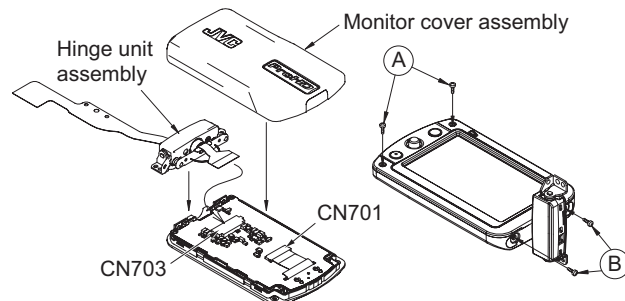
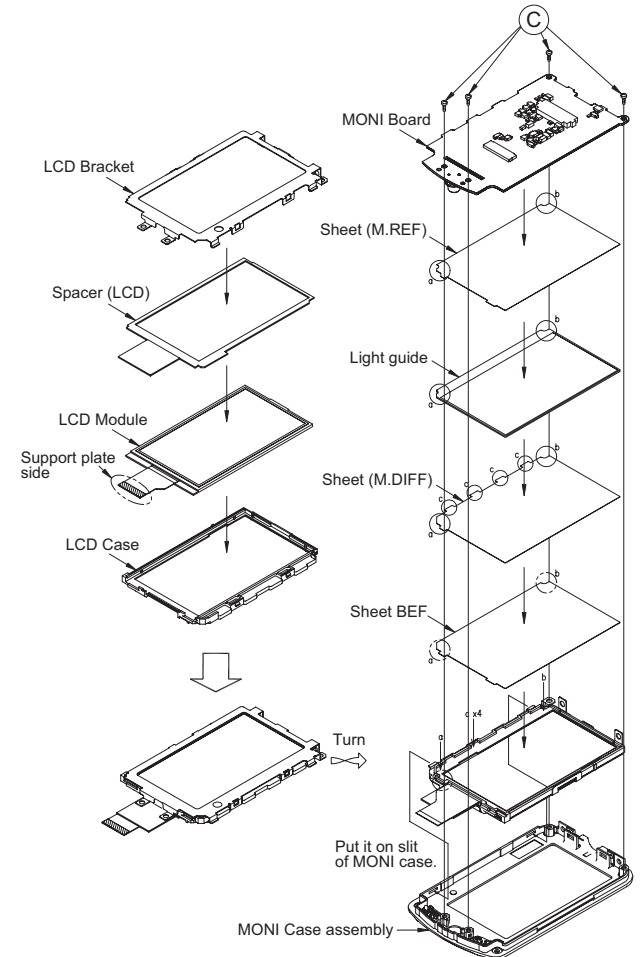

Fig.26
Fig.27
3.6 Removing the monitor assembly (See Figure 26, Figure 27)